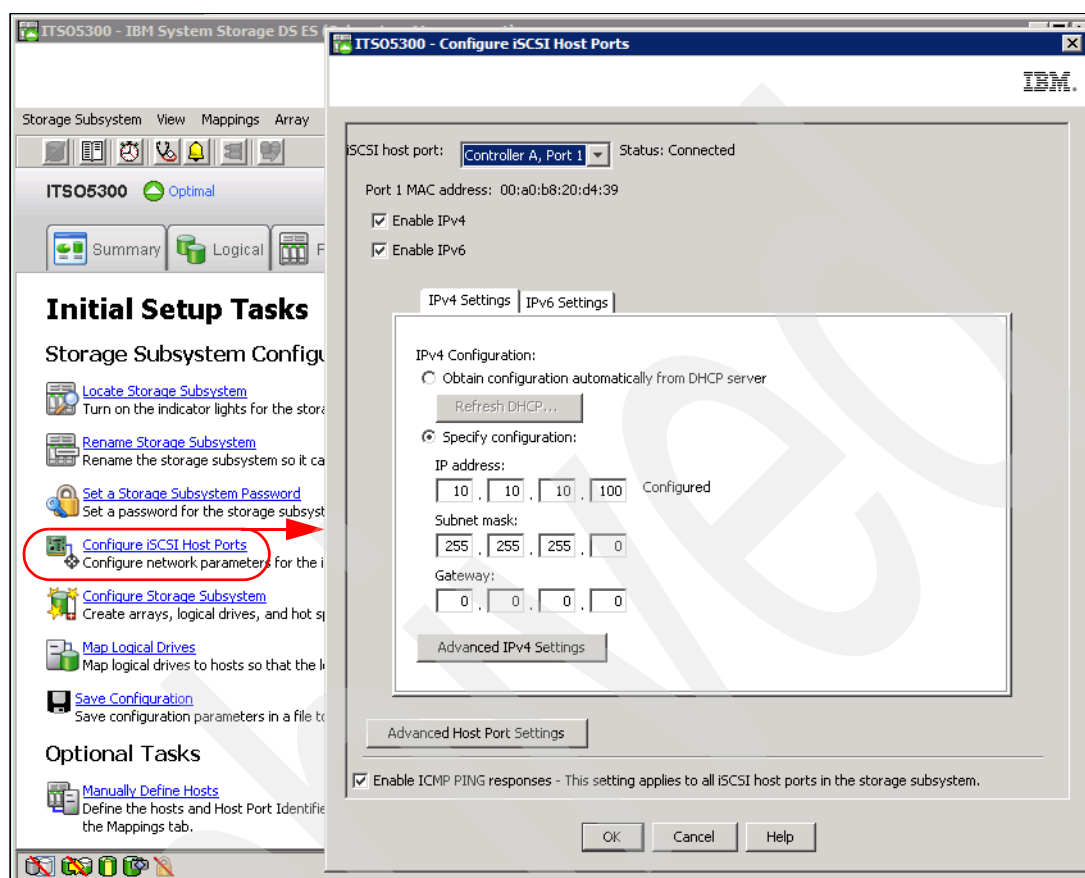

Figure 3-13 Configure iSCSI Host Ports
- Define the iSCSI host ports of each of the ports of both controllers planned to connect iSCSI hosts, selecting from the **Setup** tab of the Subsystem management window, the option **Configure iSCSI Host Ports**, as shown in Figure 3-13.